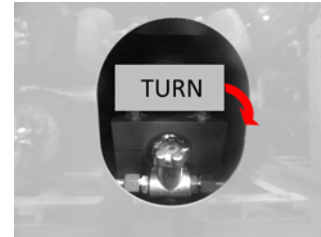

FIGURE 3 – CYLINDER MANUAL SHUT-OFF VALVE
2. Turning off a Stem Valve style valve, one should turn the valve handle clockwise until handle stops turning. (Figure 3)
NOTE: Use this method to turn OFF the valve on EACH tank. (Figures 3 and 4 Fuel System Cabinets figures 5 through 10 on page 3A)